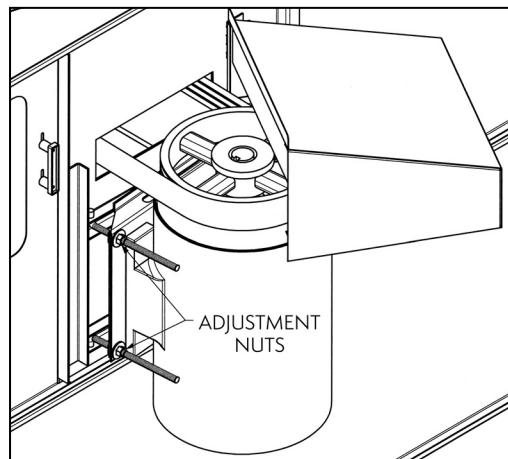

Figure 3 — Externally Mounted Motor, Induced Draft
**Induced Draft:** On induced draft belt-driven units provided with externally mounted motors, see Figure 3.